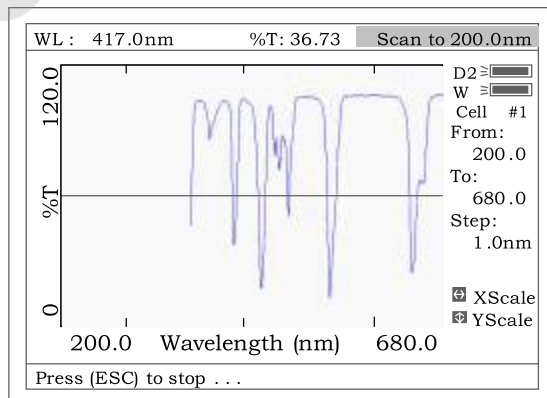
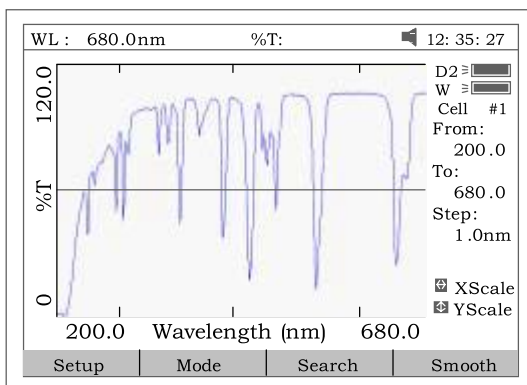

Fig 44
Fig 45
4. Pull the sample cuvette into the light path, press **【START/STOP】** to scan the sample(Fig 44) **【ESC】** to stop scanning. When scan has finished the beeper beeps 3 times (Fig 45).
Note: The report always is printed in Fig 45